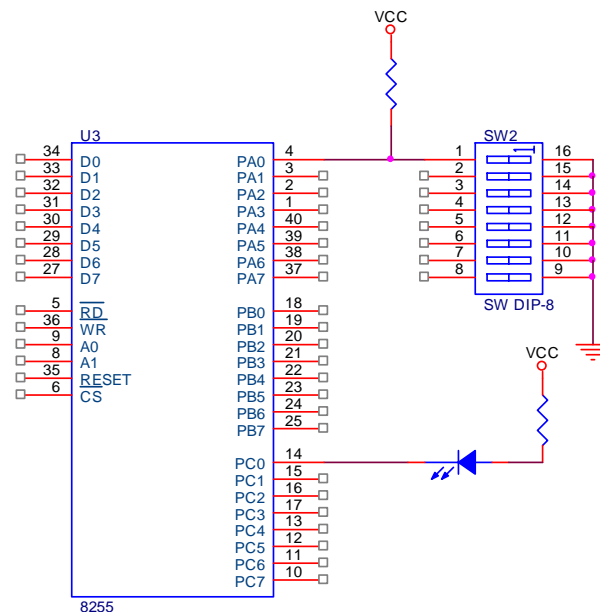

Figure 1 : Connection between LED and Switch with 8255 I/O Port
- Figure 1 shows the connection between LED and switch using 8255 I/O port. Write a program to make the LED blink when the switch is ON and stop blinking when the switch is OFF.